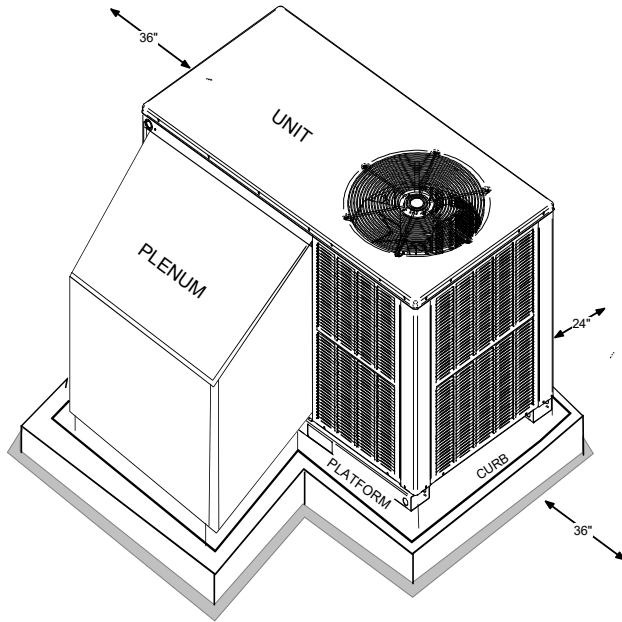

FIGURE 2
**ROOFTOP INSTALLATION (FIGURE 2)**